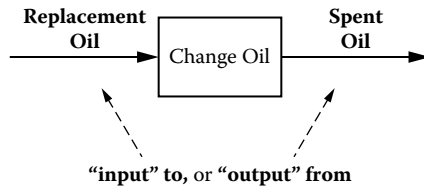

Figure 5.5 Symbols for inputs and outputs.
2. Draw a line with an arrow to show an input or an output associated with each activity. Label the inputs and outputs. This helps with subsequent interpretation. The input should be the resource that the activity transforms. You should be able to see the transformation, and the value-creating work of an activity reflected in the progression of outputs throughout the workflow. Note that the direction of the arrow is also the direction of the flow of work (Figure 5.5).